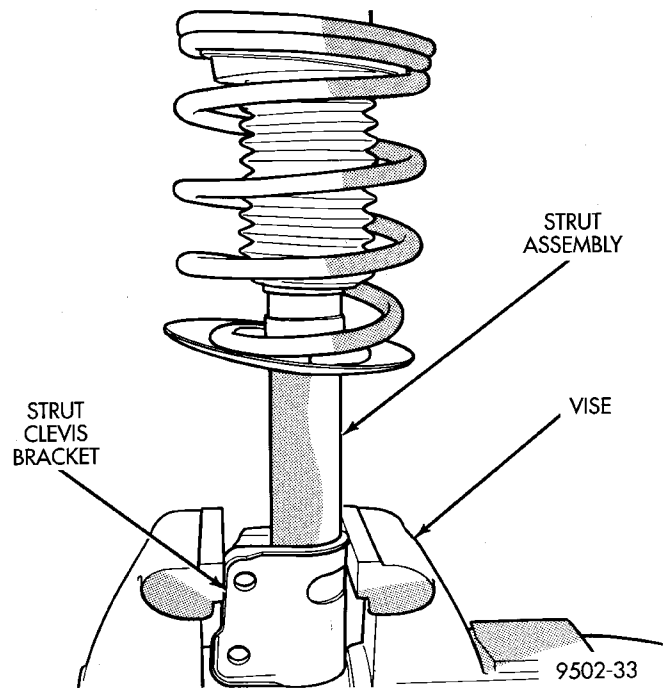

Fig. 59 Strut Assembly Correctly Clamped In Vise
(1) Clamp the strut assembly in a vise, with the strut in a vertical position. **When clamping the strut assembly in the vise, do not clamp strut using the body of the strut only by strut clevis bracket (Fig. 59).**